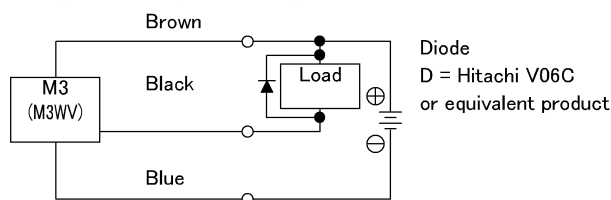

Fig.3 Example showing use of surge absorbing element for inductive load.
- When an inductive load (relay, solenoid valve) is connected, a surge voltage is generated when the switch is turned OFF. Provide the following protective circuit. (Fig.3)